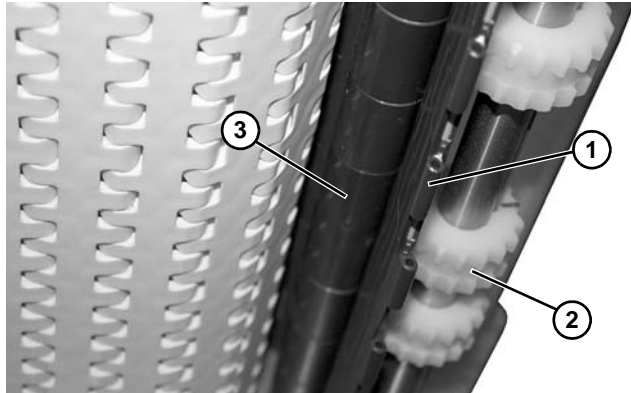

Figure 78
8. Guide belt (**Figure 78, item 1**) through idler assembly. Route the belt under the sprocket (**Figure 78, item 2**) and over idler assembly (**Figure 78, item 3**).